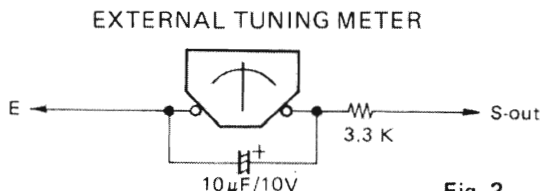

Fig. 2
- Connect a tuning meter (Ji00036 or equivalent, current sensitivity of around 250 μ A) to between the terminals Sout and E (see Fig. 2).